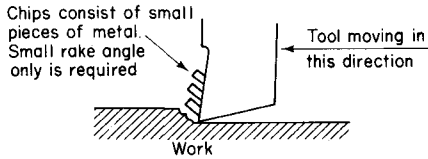

Fig. 4.51 Discontinuous chips are produced when brittle metals are cut
1. **Discontinuous chip** which is produced when brittle metals like cast iron are being cut. These chips appear as small pieces of metal or granules as shown in Fig. 4.51. There is little or no flow or metal over the face of the tool and hence when cutting brittle metals little or no rake angle is needed.